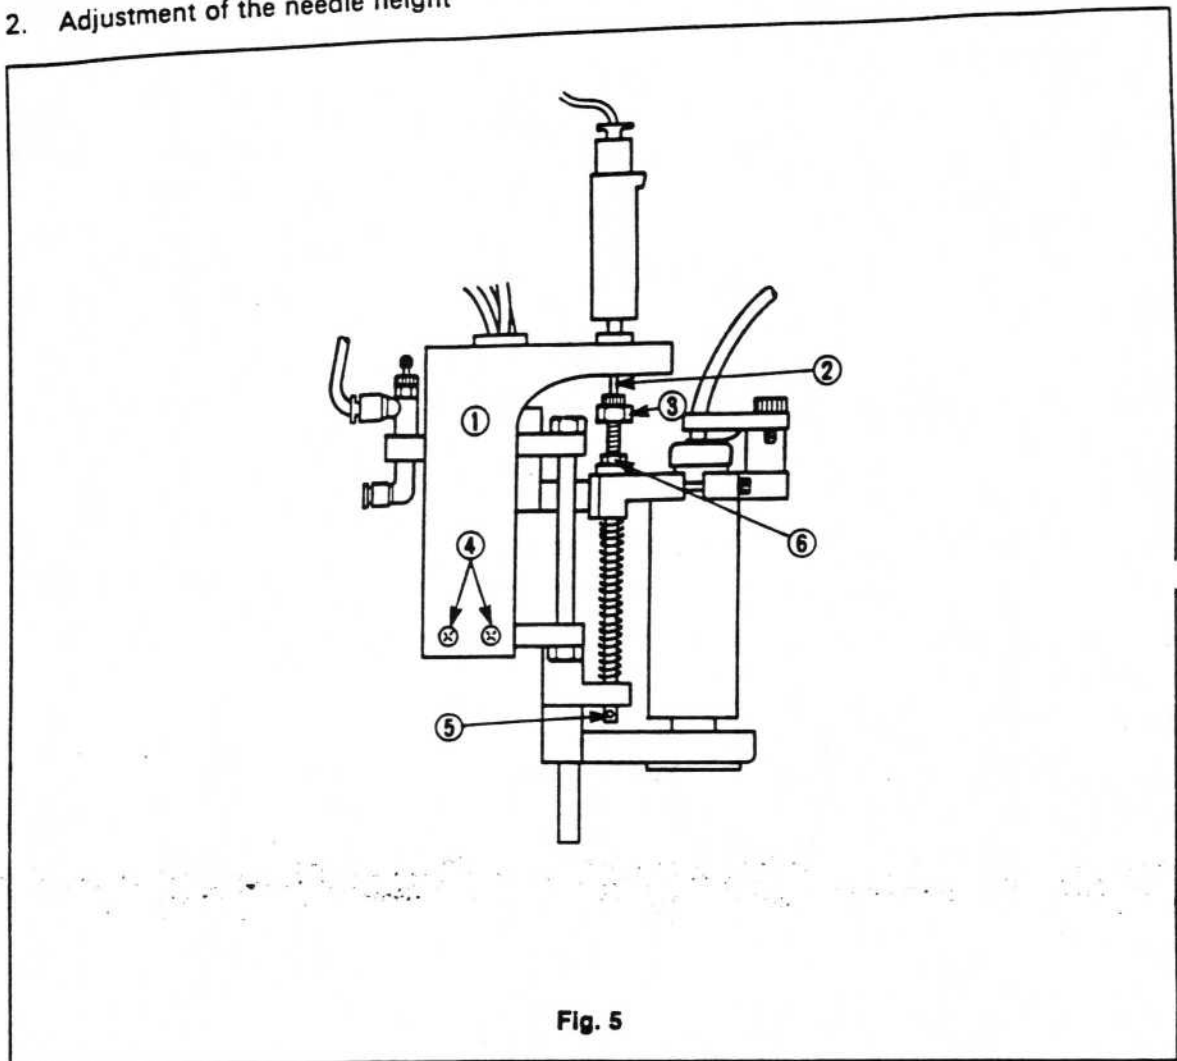

Fig. 5
- (1) Loosen the screws ④ in the BD cylinder bracket ① and adjust, making sure that the centers of the cylinder shaft ② and the hexagonal bolt ③ are in alignment (Fig. 5).
- (2) Set the main unit to TEACHING mode, switch ON/OFF the HEAD SW on the main unit's operation panel and operate HEAD UP/DOWN.
- (5) Insert a pin in the $\phi 3$ mm hole ⑤ in the lower end of the spring shaft and loosen the hexagonal nut ⑥ (see Fig. 5).
- (6) Turn the hexagonal bolt ③ to adjust the height of the needle end so that it is within ± 5 of the height of the underside of the board (see Fig. 5).
- (7) After adjustment, turn the hexagonal nut ⑥ counterclockwise to tighten it so that the hexagonal bolt ③ is not loose (see Fig. 5).
- (8) Remove the pin from the hole in the lower spring shaft (see Fig. 5).